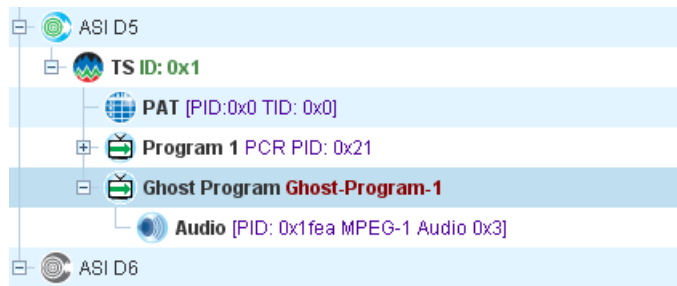

Figure 170. New Unreferenced PID
7. Click **OK**. The new PID appears (Figure 170).